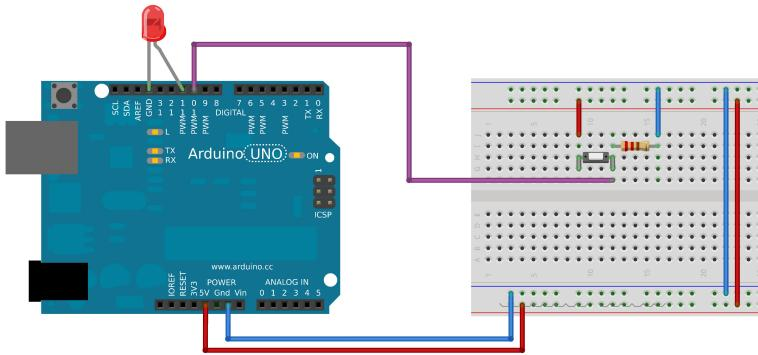

Figure 2.5: Blinking LED advanced layout
Before writing any code, try to assemble the parts as shown in Figure 2.5.
1. Place the pushbutton on your breadboard. In Figure 2.5, the two pushbutton "legs" are inserted into holes 5c and 6c. In this example, the pushbutton will be energised through the 5c leg.
3. In order to avoid confusion, cables on all figures are color coded. *Red* represents power cables, *blue* are connections to GND and *cyan* are connections to IO pins on the Arduino. Try to duplicate the layout of Figure 2.5.